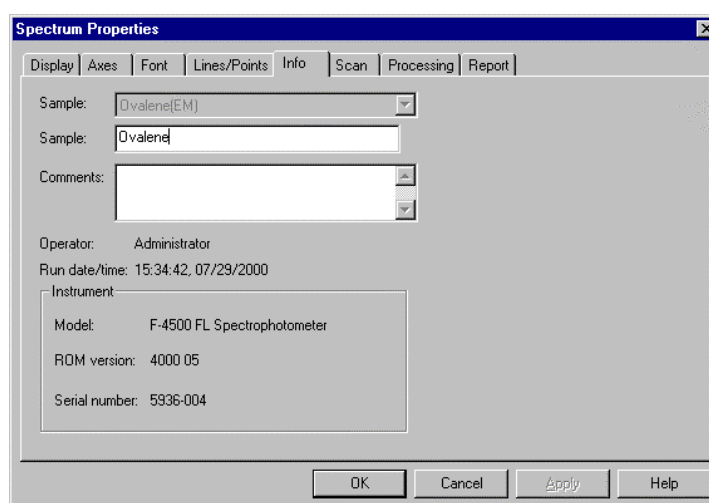

Fig. 6-34
- (1) Open the data file for renaming.
- (2) Select the Properties (O) command from the Edit (E) menu or click the  button.
- (3) A window as in Fig. 6-34 will open. Click the Info tab.